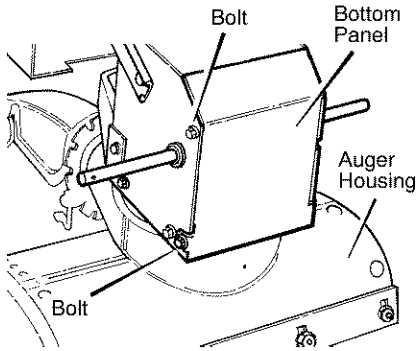

Figure 21
2. Loosen the **bolts** on each side of the **bottom panel** (see Figure 21).
13. Install the **bottom panel** (see Figure 21).